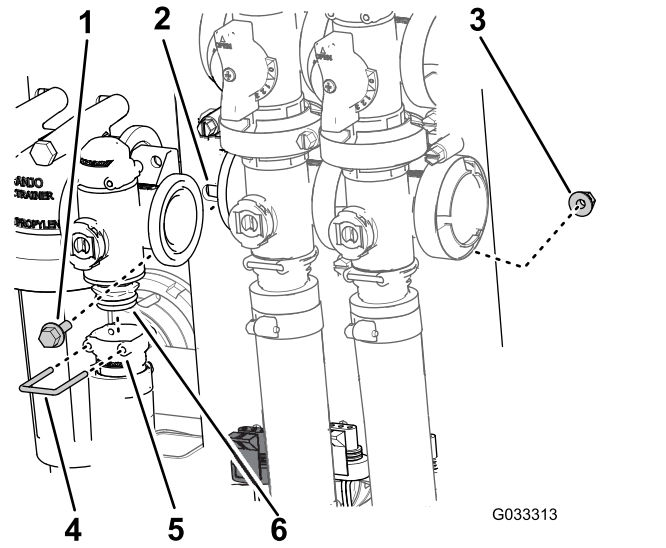

Figure 63
2. Remove the retainer that secures the outlet fitting to the manifold for the rate-control valve (Figure 63).
3. Remove the 2 flanged-head bolts and 2 flanged locknuts that secure the rate-control valve to the valve mount and remove the valve manifold from the machine (Figure 63).